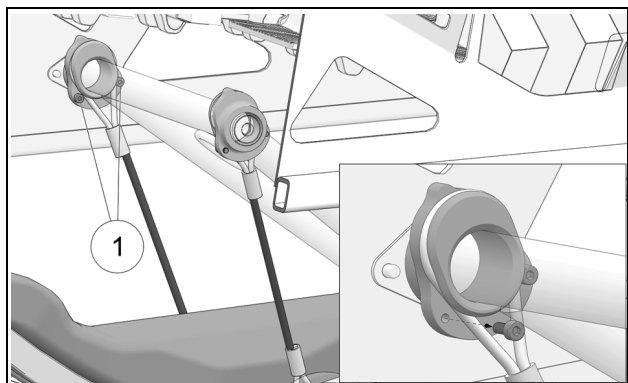

Figure 14
- Use a 3 mm Allen key to remove one of the two bolts (1) that lock the limiter cable on the upper cam. Figure 14.